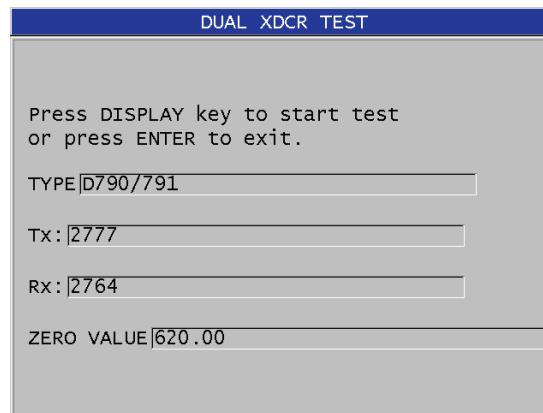

Figure 15-3 The DUAL XDCR TEST screen
7. When **DUAL XDCR TEST** is selected, in the **DUAL XDCR TEST** screen (see Figure 15-3 on page 261):